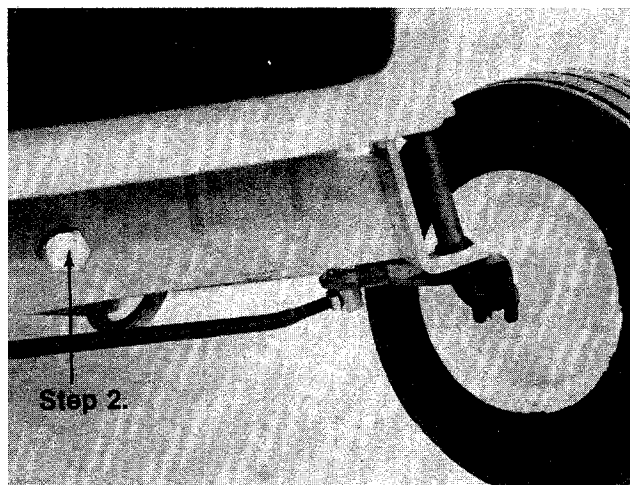

FIGURE 27.
2. **Pivot Bolt**—Lubricate with light oil once a season. See figure 27.